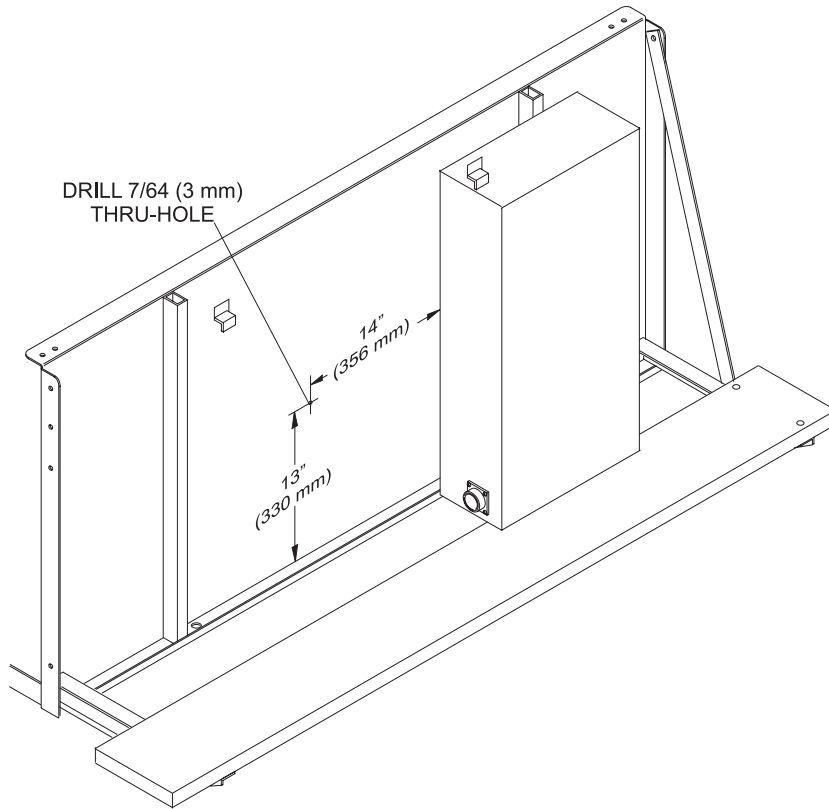

Figure 2
2. Locate and drill the first pilot hole for the Emergency Stop Interface Box. Align the predrilled hole and mark and drill the remaining three holes. Refer to *Figures 2 & 3*.
1. From the left hand side of the pinsetter front frame, measure over 31 inches (787mm) and mark this location on the top of the front frame with a pencil. Refer to Figure 2.